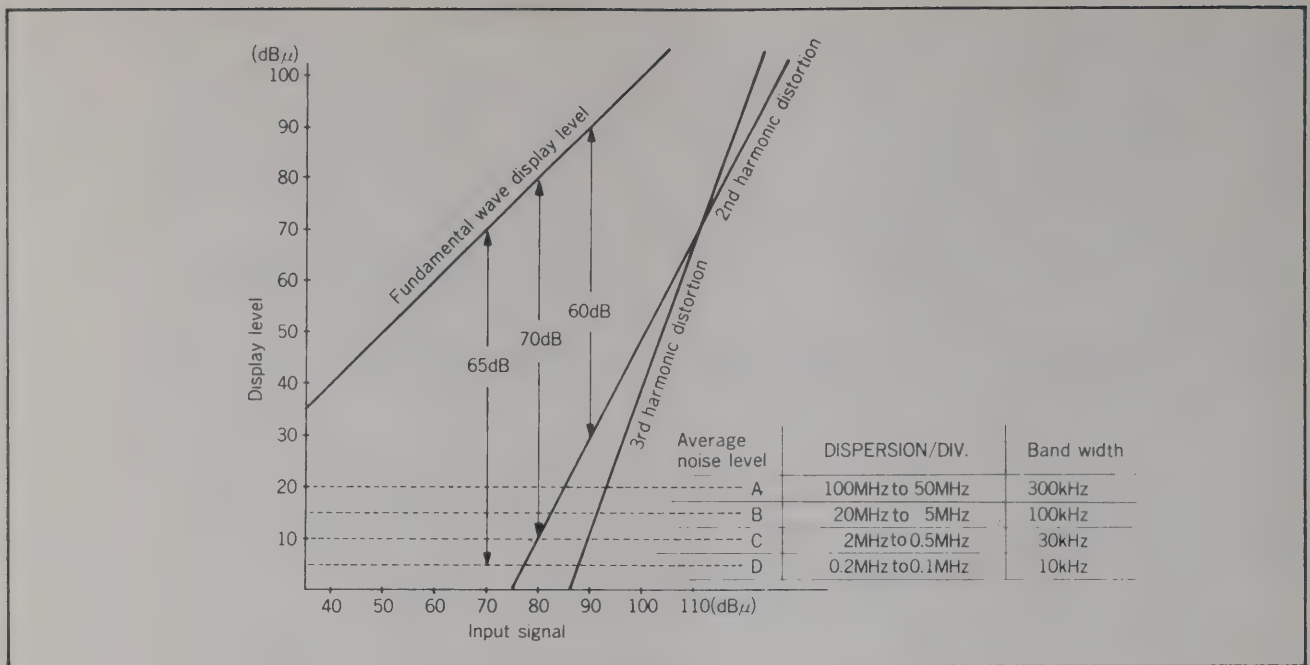

Figure 3.17 Mixer Harmonic Distortion Noise
**3.5.4.2** Referring to Figure 3.17: if an 80 dBuV level input signal is applied to the unit's 1st MIXER stage, the second harmonic generated by the mixer will be at a level of 10 dBuV or 70 dB